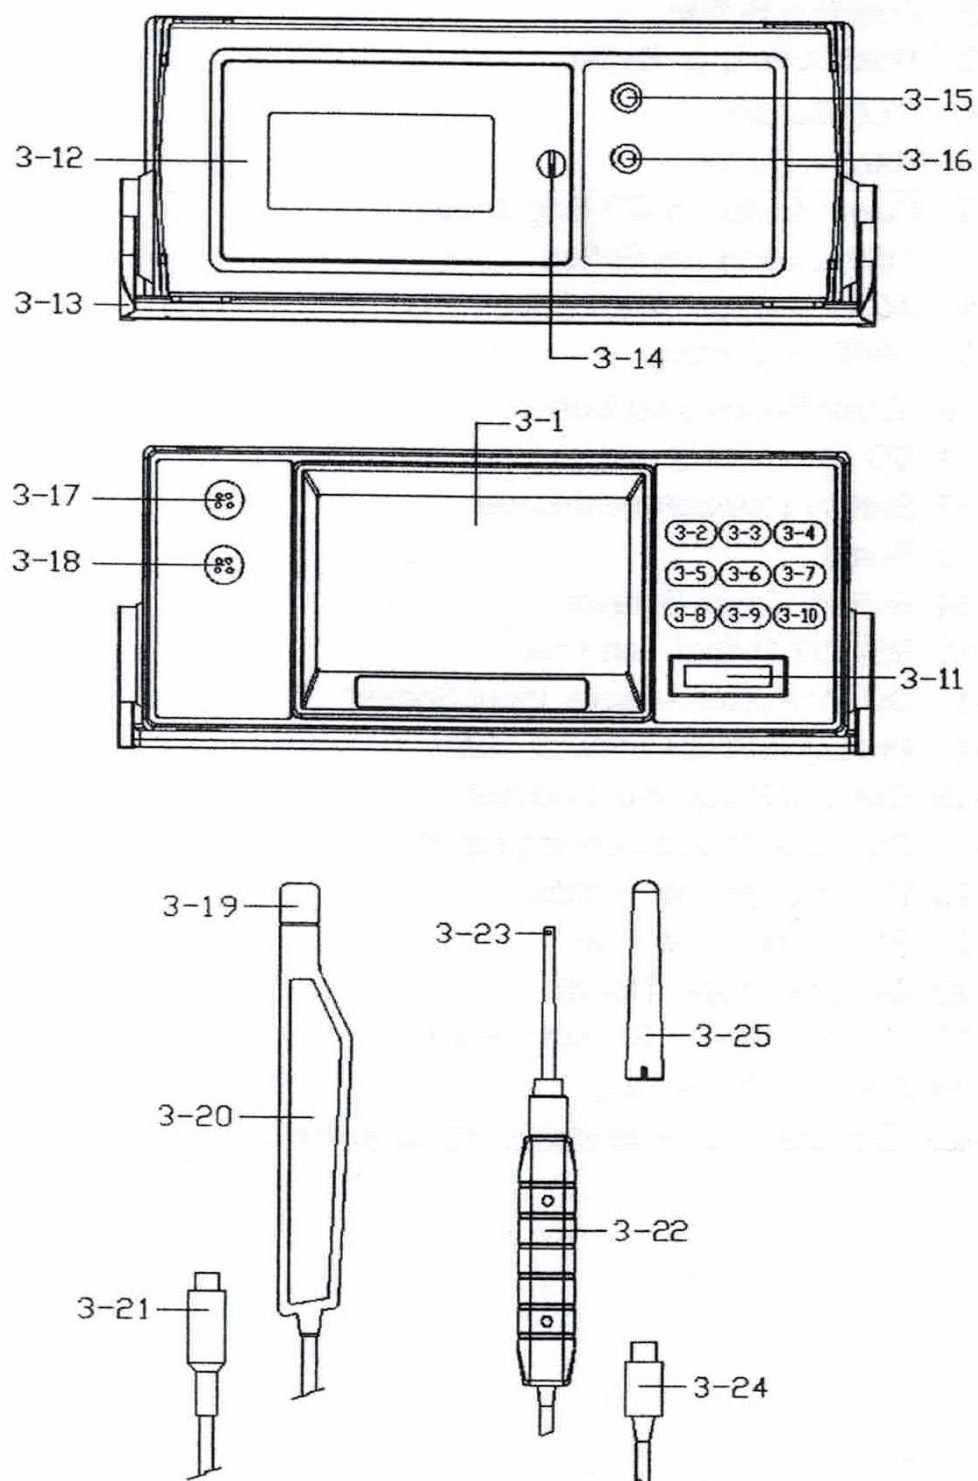

Fig.1
- 1) Power ON the meter by pressing and holding the " Power Button " (3-6, Fig. 1) for at least 2 seconds .
- 2) General magnetic field measurement Function by pressing the " Function Button " (3-2, Fig. 1) to select General measure function .
- 3) General Probe Plug (3-24, Fig. 1) into the meter General Probe Input Socket (3-18, Fig. 1)
- 4) "DC" or "AC" measurement Function select by pressing the " AC/CD Button " (3-8, Fig. 1) to select measure function DC or AC function .
- 5) magnetic field measurement range select by pressing the " Range Button " (3-5, Fig. 1) to select ' Range 1 or 'Range 2 .
- 6) unit selection by press the " Unit Button " (3-9, Fig. 1) to select the unit mT or G .
2. For precision DC ,AC magnetic field measurement it should deduct those "not zero " value (existing environment earth's magnetic field value) at first . Before the measurement, fix the probe at the exact position, by pressing and holding the" ZERO (3-8 , Fig. 1) " continuously at least two seconds until the Display show " ZERO " indicator then release the finger from the button.
*press the " ZERO Button " (3-8, Fig 1) continuously at least 2 seconds the " ZERO " indicator will be disappeared and the Display will return to the value)." no zero "value (show the environment magnetic field.
- 1) Power ON the meter by pressing and holding the " Power Button " (3-6, Fig. 1)for at least 2 seconds .
by pressing the " Function Button " (3-2, Fig. 1) to select Precision measure function .
- 3) Precision Probe Plug (3-21, Fig. 1) into the meter Precision Probe Input Socket (3-17, Fig. 1)
- 6) unit selection by press the " Unit Button " (3-9, Fig. 1) to select the unit micro Tesla or milli Gauss .
2. Power ON the meter by pressing the " Power Button "(3-6 Fig 1) >2 S.
3. Select the unit (mG or uT) by press the " UNIT Button "(3-9 Fig 1) once.
2. For Precision DC, AC magnetic field measurement it should deduct those "not zero " value (existing environment earth's magnetic field value) at first .Before the measurement, fix the probe at the exact position, by pressing and holding the"ZERO (3-8 , Fig. 1) " continuously at least two seconds until the Display show " ZERO " indicator then release the finger from the button.
During the measurement, press the " Hold Button " (3-3, Fig. 1) once will hold the measured value & the LCD will display a " HOLD " symbol.
- 1) The data record function records the maximum and minimum readings. Press the " REC Button " (3-4, Fig. 1) once to start the Data Record function and there will be a " RECORD " symbol on the display.
- a) Press the " REC Button " (3-4, Fig. 1) once, the "RECORD MAXIMUM " symbol along with the maximum value will appear on the display.
- b) Press the "REC Button "(3-4, Fig. 1) again, the " RECORD MINIMUM " symbol along with the minimum value will appear on the display.
Depending on the brightness of the environment, can use the "Backlight Button " (3-6, Fig. 1) select from 4 rd-order LCD Backlight brightness.